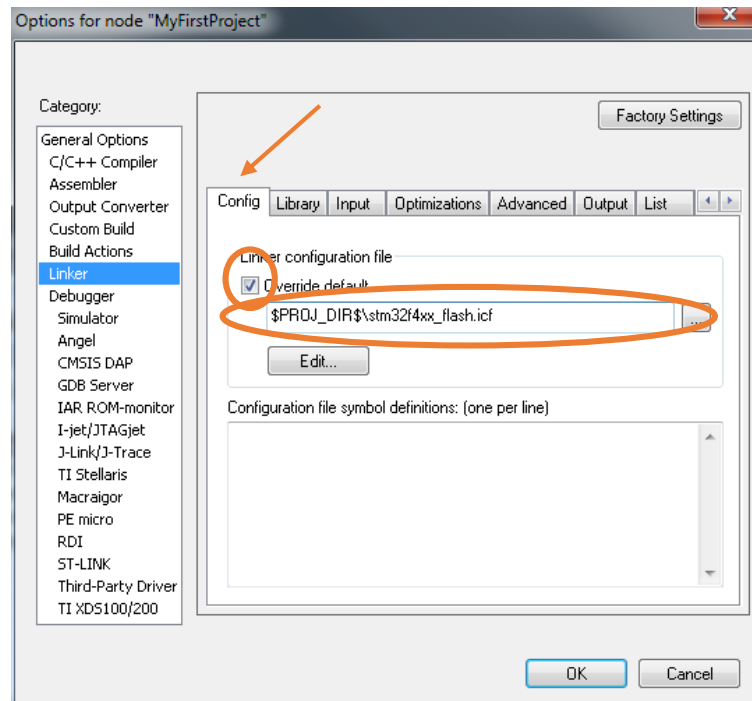

Figure 3.12: The machine code will be downloaded into the flash memory, and it must be linked accordingly
- The machine code can be prepared to run from flash memory, from RAM or from external RAM, but the linker must know the desired destination for the code. We define it by selecting the appropriate linker configuration file “stm32f4xx\_flash.icf” as shown in Fig. 3.12.